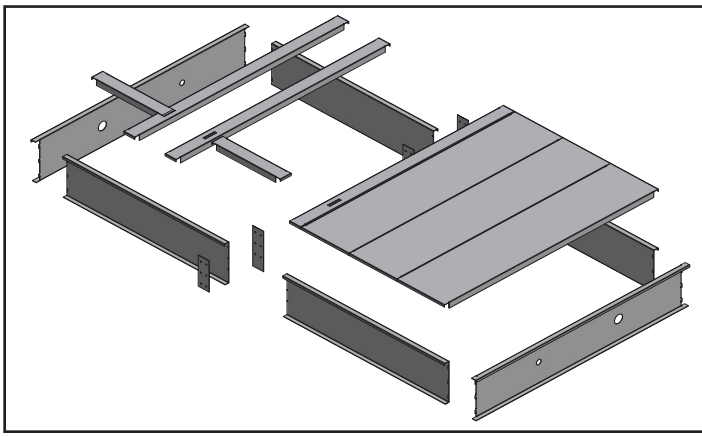
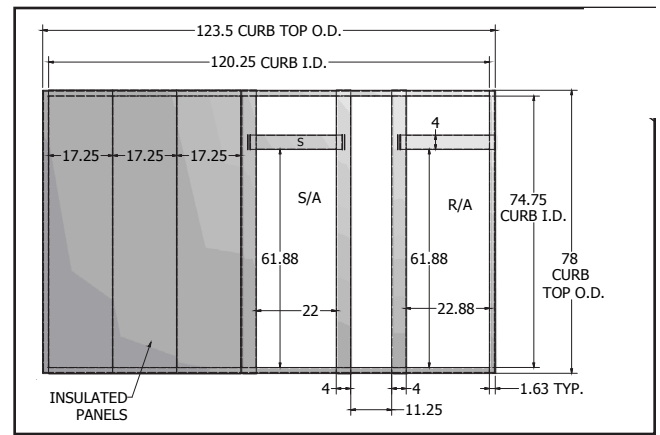

Figure 1
Figure 2
2. Position perimeter pieces as depicted in Figure 1 and Figure 3 with wood to the outside, keeping the raw ends with the brackets holes facing one another.
5. Install duct support pieces per Figure 1 and Figure 2.